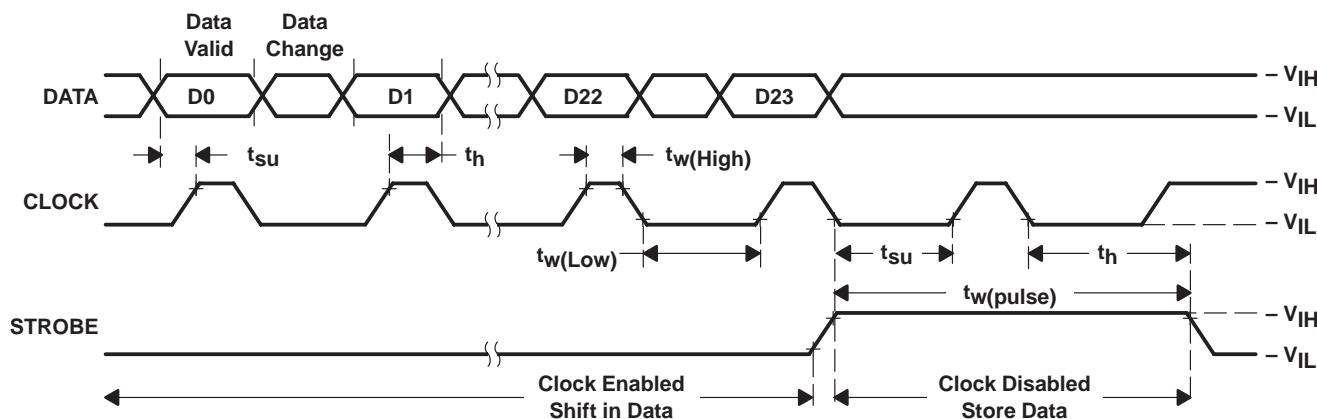

Figure 1. TRF3520 Timing Relationships
**serial interface timing requirements with  $V_{CC} = 3.75 \text{ V}$ ,  $T_A = 25^\circ\text{C}$ ,  $Z_O = 50 \Omega$  (unless otherwise specified) (see Figure 1)**